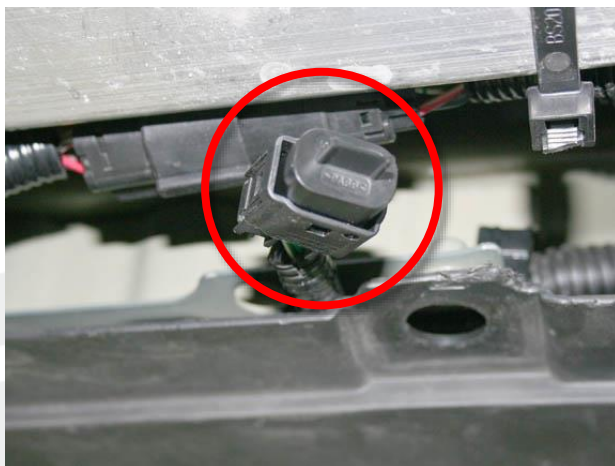

Figure 30
43. Install the connector cap onto the free connector (Figure 30). Use a cable tie to secure the connector out of the way.